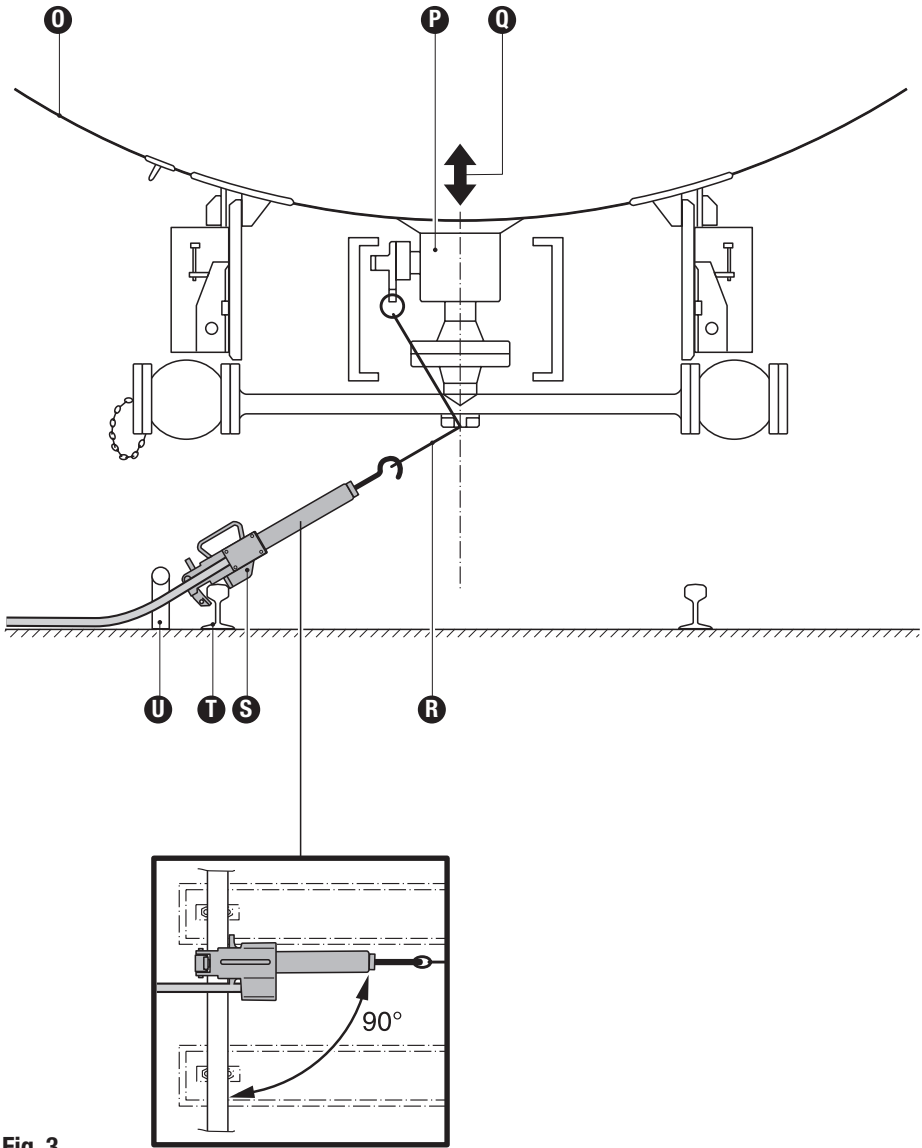

Fig. 3
During the loading and unloading process, the rail hook VZ 10 is stretched between the cable and the rail (see Fig. 3) and keeps the bottom valves open. The compressed air supply is not used to open the bottom valves (it only serves the purpose of applying a compressive force to the compression spring **C**). The spring **F** for compensating height variations prevents the rail hook from being torn off the rail during emptying of the tank car. The proximity switch **K** triggers the emergency shut-down system if the rail hook comes off the rail because of unintentional movement of the tank car.
1. **If rail type is not S-49:** Install an auxiliary device consisting of a tube, \varnothing 63 mm **U**. **Fig. 3**